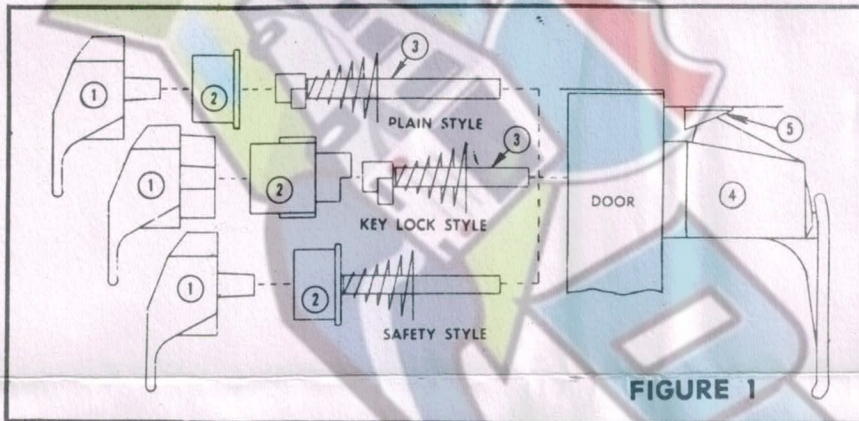

FIGURE 1
**STEP NO. 2**—Assemble outside handle (1) with button (2), spindle and spring (3). Insert this assembly through installation holes from outside of door as shown in Fig. 1.